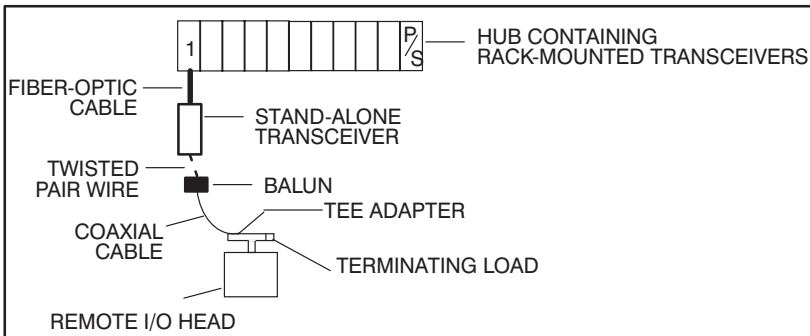

Figure 3.22 - Connecting the Remote I/O Head to the Fiber-Optic Network
- Step 9. To connect the module to a fiber-optic network, a twisted-pair-to-coax balun (AMP 555053-1 is recommended) is used to convert the cable between the module and the transceiver as shown in figure 3.22. The balun is connected to the module via the BNC Tee Adapter. Note that a 75 ohm terminating load (M/N 45C71) is required. Refer to figure K2.2 in Appendix K and connect the twisted pair wire to the transceiver. Continue to step 10.